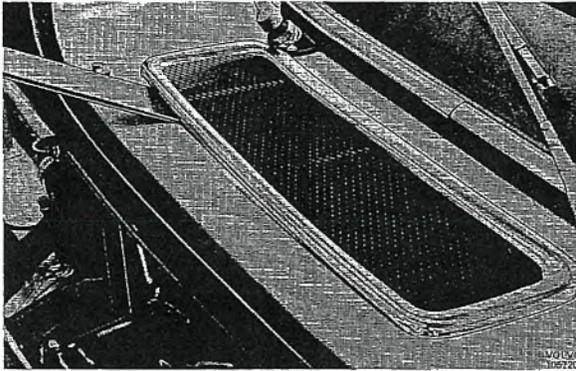

Fig. 8-57. Removing air intake grille
1. Remove the fresh-air grille with the help of a wooden putty knife (see Fig. 8-57).